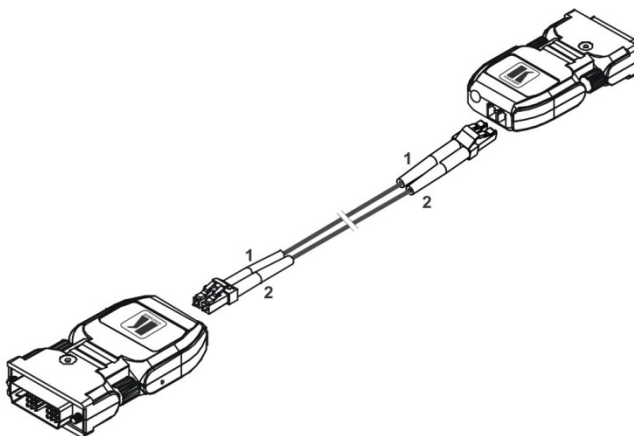

Figure 3: Connecting the Fiber Optic Cables
3. Connect the duplex LC fiber cables to the **602T** and **602R** modules, one cable at a time, as illustrated in Figure 3.
Do not use any intermediate cable or adapter between them, and connect cables 1 and 2 as indicated in Figure 3